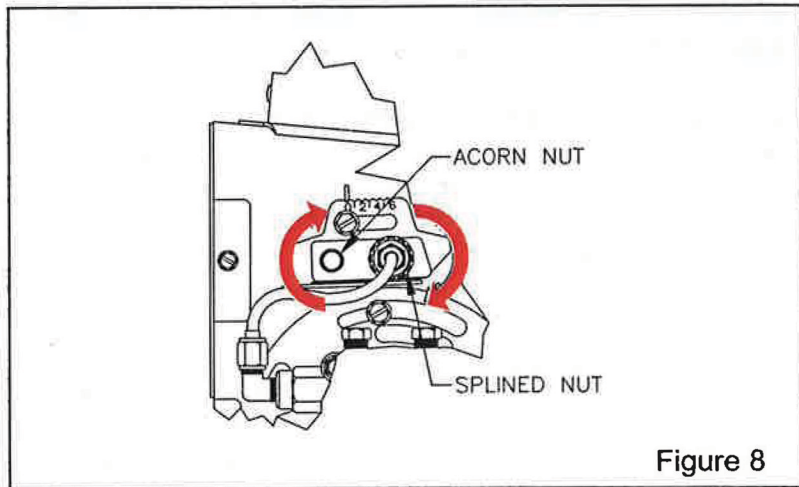

Figure 8
Step 5. Tighten the acorn nut and splined nut. This fixes the “0” head setting position of the adjusting plate. The “Z” dimension of your V head is now properly adjusted at the “0” head setting. See Figure 8.